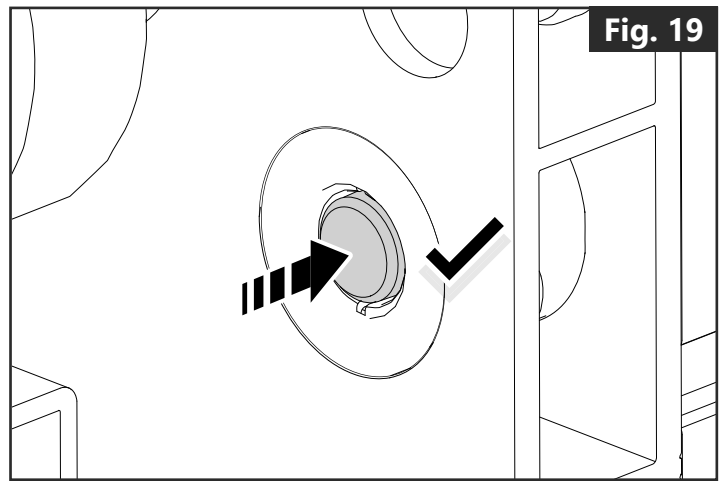
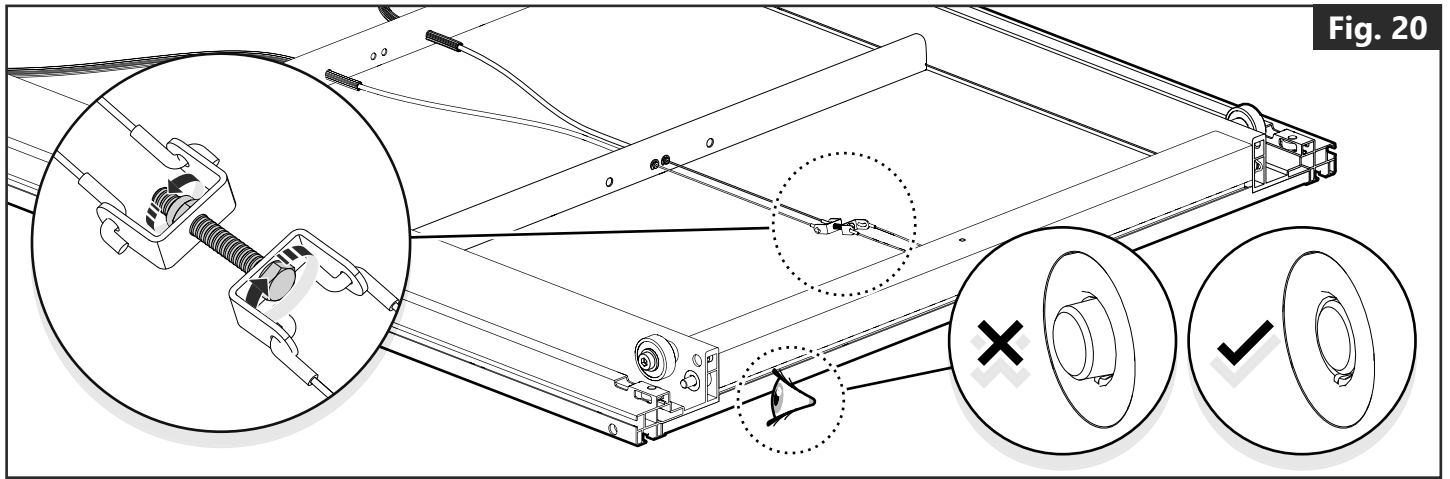

Fig. 19
Fig. 20
- The locking pins - located at the back of the deck **(Fig. 19)** - should retract completely when the deck handle pulled. If the locking pins do not retract completely, tighten the wire connector underneath the deck **(Fig. 20)** until the locking pins retract completely again.